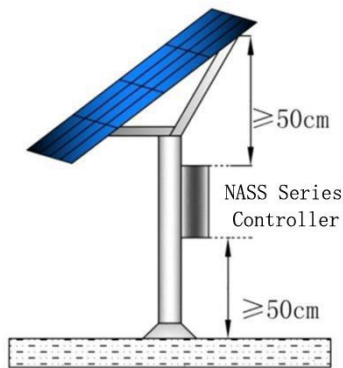

Figure 4. Control Box Location
7. Heat shrink the 3 wires, Fig 4
The NASS Series solar pump controller must be installed into a control box which has a tight enclosure to avoid direct sunshine, rain, dust, moisture, animals, plants, etc. The control box should have a bottom gland plate for installing wire cord or conduit. To decide the size of control box, Please refer to the following Figure 4.